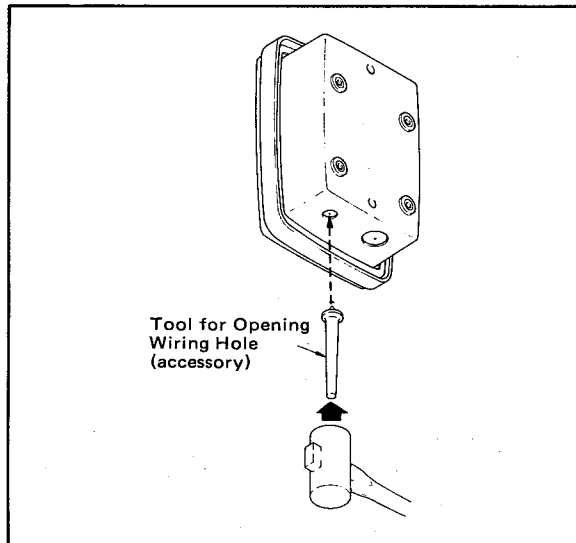

Figure 2-12. Opening Wiring Hole.
- (1) Open the wiring hole to the terminal box. A semi-punched wiring hole is provided in the case bottom. Place the tip of the tool — supplied with the terminal box — on the semi-punched hole edge and tap the tool end gently using a hammer as shown in Figure 2-12.
- (1) Open the wiring hole to the pH converter. A semi-punched wiring hole is provided in the case bottom. Place the tip of the tool supplied with the pH converter on the semi-punched hole edge and tap the tool end gently using a hammer as shown in Figure 2-12.
- (2) Loosen two screws on the pH converter front panel by turning them counterclockwise with your hands to remove the cover. Remove the plate covering the sensor cable connecting terminals located in the right side of the case. The plate is fixed with two screws.
- (3) Connect the sensor cable to the converter terminals. First, remove the nut from the cable gland, then pull the cable into the internal assembly through the wiring hole. Pass the cable through the nut. Correctly connect each conductor to the corresponding terminal observing conductor marking.